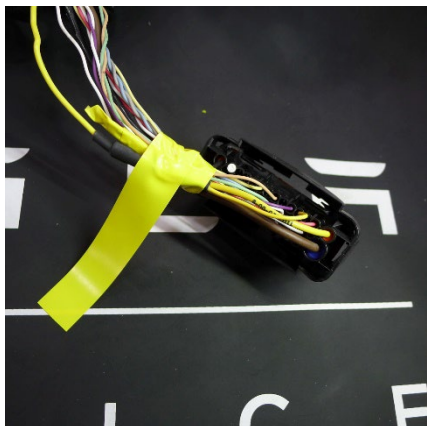
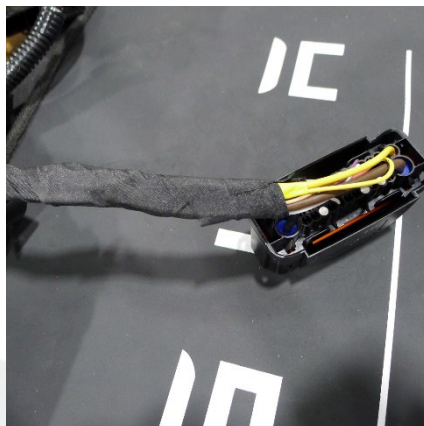

Figure 22
Figure 23
19. Bundle the excess jumper wire neatly into the electrical harness with yellow tape (Figure 22), and then wrap the harness with anti-abrasion tape (Figure 23).